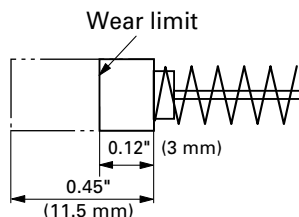

Fig. 29
4. Inspecting the carbon brushes (Fig. 29)